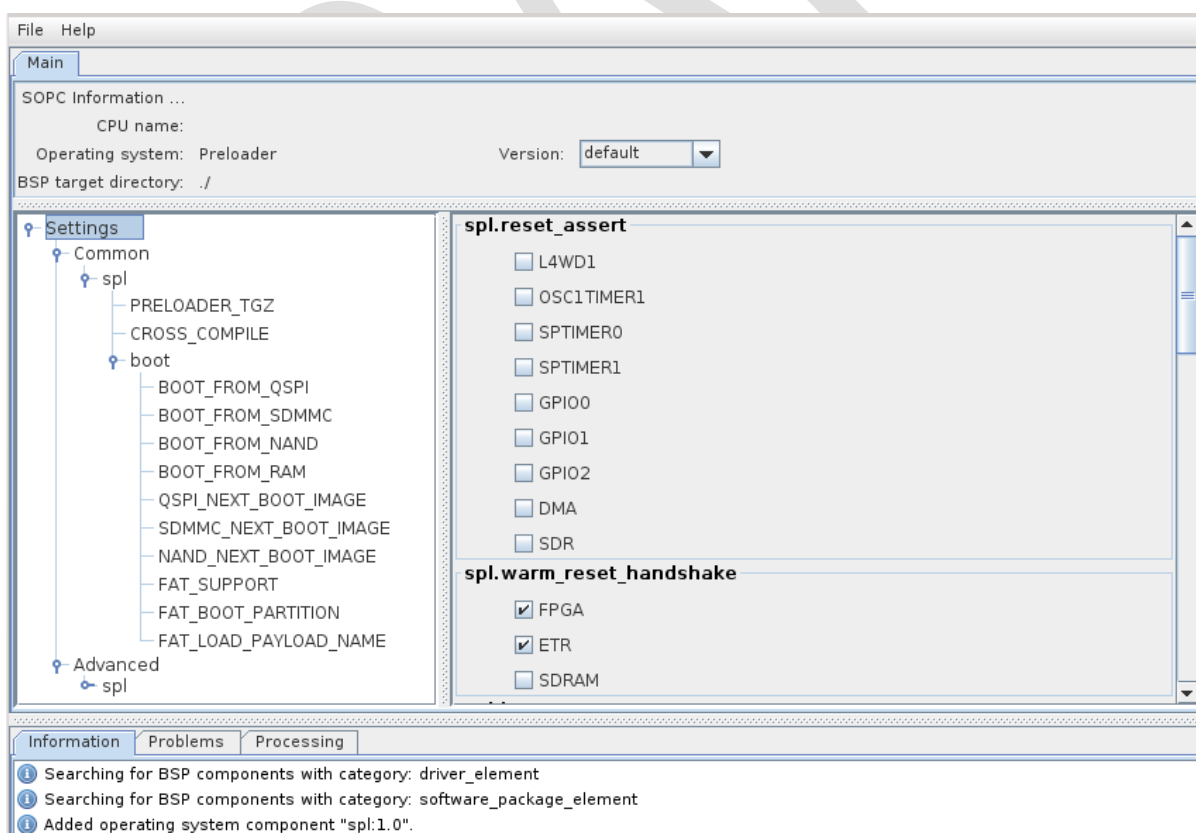

Figure 8-20. Preloader Settings Dialog
- c. Press the “OK” button. You should then arrive on a page with many settings, as shown on Figure 8-20. Take some time to read through them to see what the preloader has the ability to do.